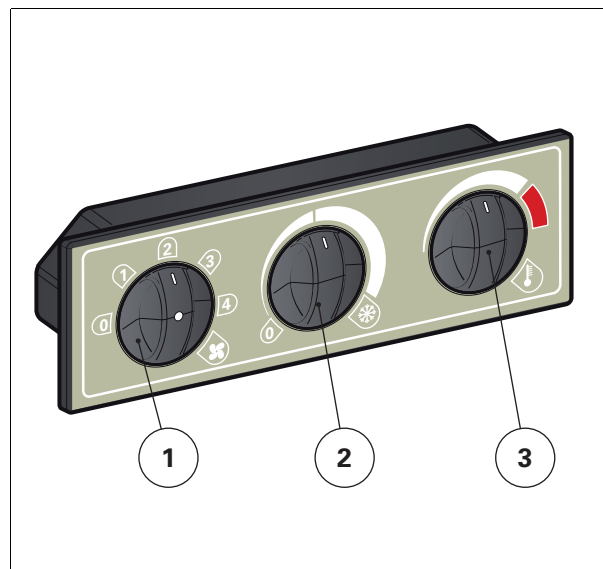

Fig. 26.
- The fan control knob ((1)) is used to adjust the fan speed (from 0 to 4) *fig. 26*.
- The thermostat control knob ((2)) is used to adjust the air conditioning temperature *fig. 26*.
- The heating control knob ((3)) is used to adjust the heating temperature *fig. 26*.